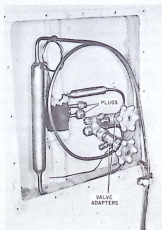

FIGURE 7
5. Disconnect the evaporator at the flare fitting and plug the open evaporator tubes immediately to prevent moisture and dirt from entering the system. See figure 7.
6. If no leaks are found, remove the valve stem caps, and then install the valve-adapters on the dual-valve as shown in figure 7. Attach the purging line. Check the dual-valve again. If it leaks, bottom-seat the valve immediately. Replace.